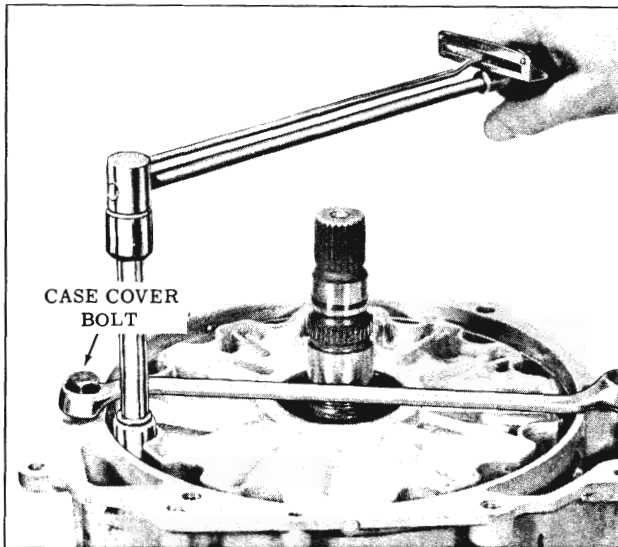

Fig. 3-116 Torus Cover Installation
16. Install box end wrench on case, as a holding tool, and install 12 torus cover to drive torus attaching bolts, cross tightening the bolts. Torque 17 to 20 ft. lbs. (Fig. 3-116)